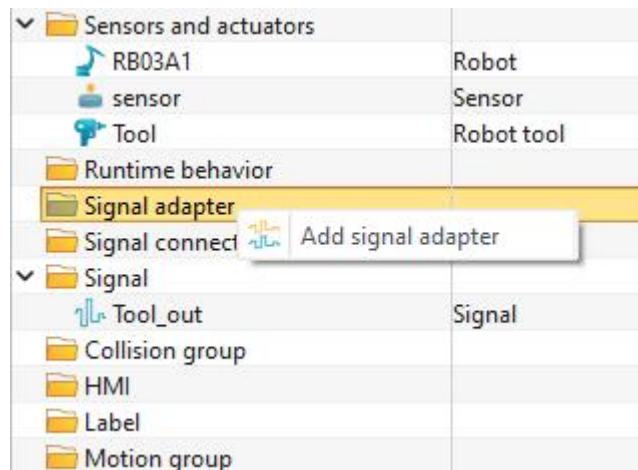

Figure 10-9: Add signal adapters
Step 7: Add signal adapters (2)
- Select "Add Signal Adapter". (Figure 10-9)